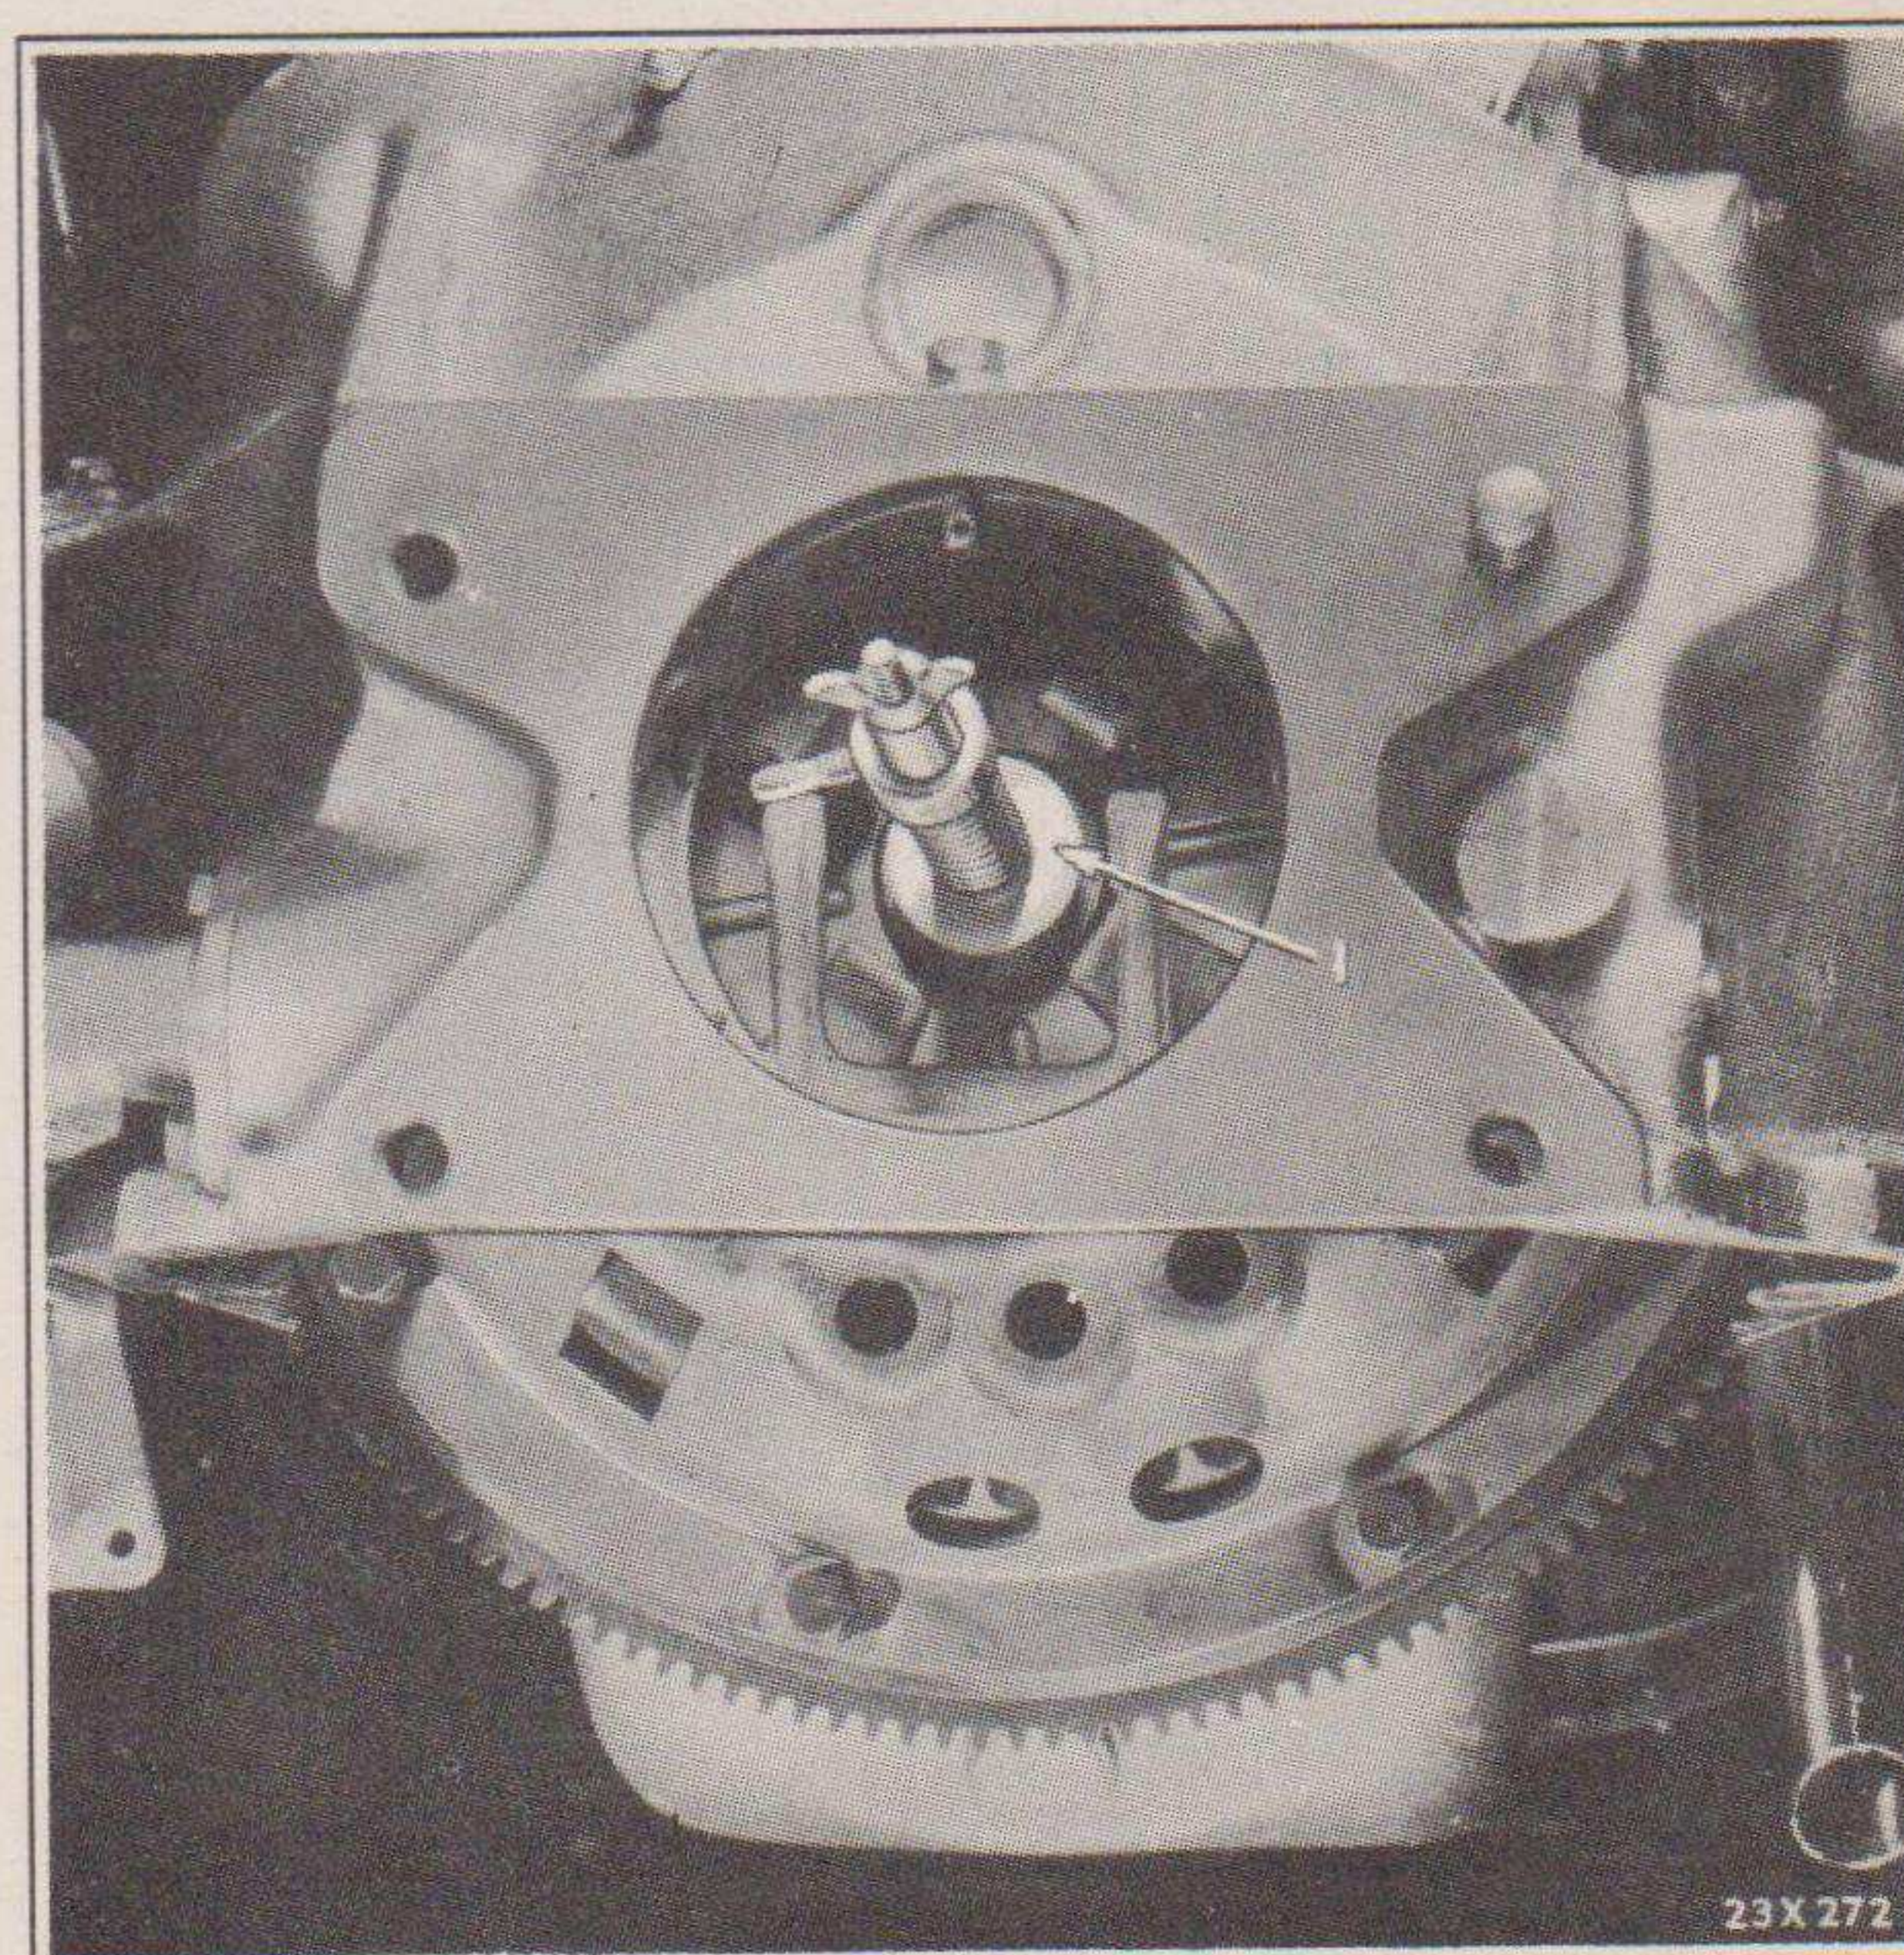

Fig. 88—Clutch Disc Aligning Arbor (1—Tool C-360)
- (c) Hold the clutch cover plate and disc in place and insert the special clutch aligning tool No. C-360 (Fig. 88) through the hub of